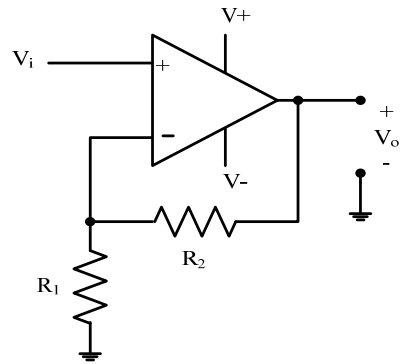

Figure 9: A noninverting amplifier
- Design a noninverting amplifier in Figure 9 with gain 3.5.